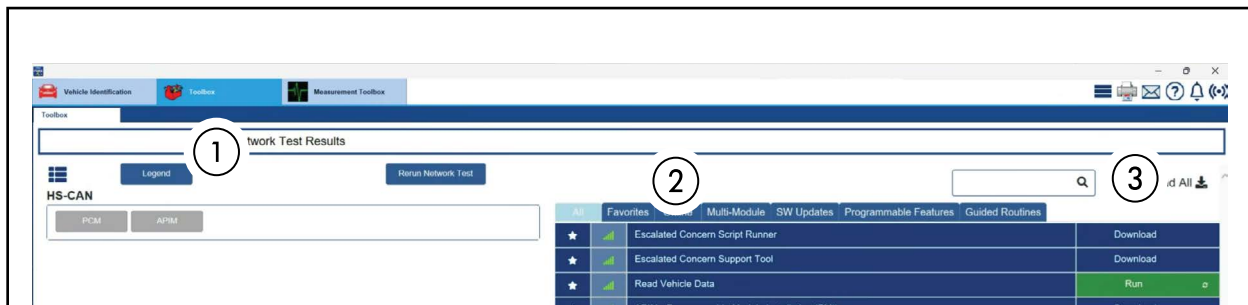

FIGURE 2
7. Select **Toolbox** (1) tab.
8. Select **All**. See Figure 2.
9. Select **Read Vehicle Data** (2) and then **Run** (3). See Figure 2.
11. Select the **SW Updates** tab (1). See Figure 2.
12. **Warranty Dealer Code** (2) - Change the displayed PA code as necessary. See Figure 2.
13. Select the **FSA** (3) from the drop-down menu. See Figure 2.
14. Select **Submit** (4). See Figure 2.